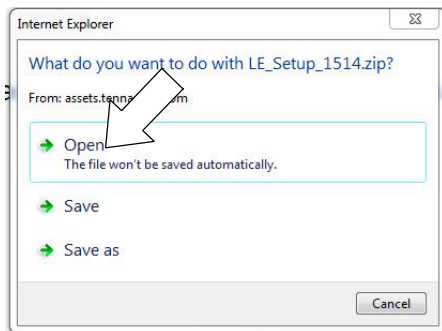

Fig. 26
- To download the service software continue to click as instructed then click the Save button (Figure 26).